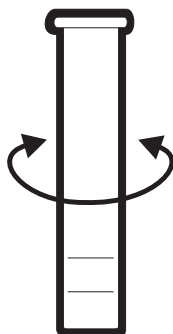

Figure 2. Swirling the Sample
7.3. Cap the sample tube and swirl for 10 seconds to mix contents. (See Figure 2.)